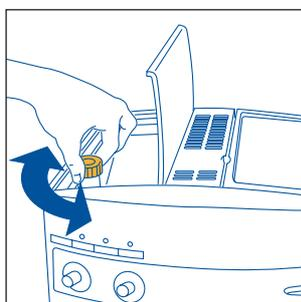

Fig. 17
**NOTE 1:** If the coffee is delivered a drop at a time or not at all, turn the grinding coarseness regulator (fig. 17) one click clockwise (see para. 6). Turn a click at a time until the coffee is delivered satisfactorily.
**NOTE 2:** If the coffee is delivered too fast and is not creamy enough, turn the right-hand knob (fig. 7) clockwise. Proceed by trial and error to find the correct position of the knob. Make sure not to turn the knob too far clockwise, otherwise the delivery may become too slow (in drops), above all when making two cups of coffee. If, after several coffees, the cream is still not satisfactory, also turn the grinding adjustment knob (Fig. 17) one click clockwise (see para. 6).
**NOTE 8:** the grinder in the coffee maker may become worn over time and consequently the coffee will change taste as it is ground more coarsely. To resolve this problem, re-set the grinding coarseness on the coffee grinder by adjusting the knob (Fig. 17) one click anticlockwise (as described in chap. 6).
Nonetheless, after having made the first coffees, if delivery is too fast or too slow (in drops), the grinding coarseness must be adjusted using the knob (Fig.17) located inside the bean container. Turning one click (one number) clockwise achieves faster delivery of the coffee (without drops).